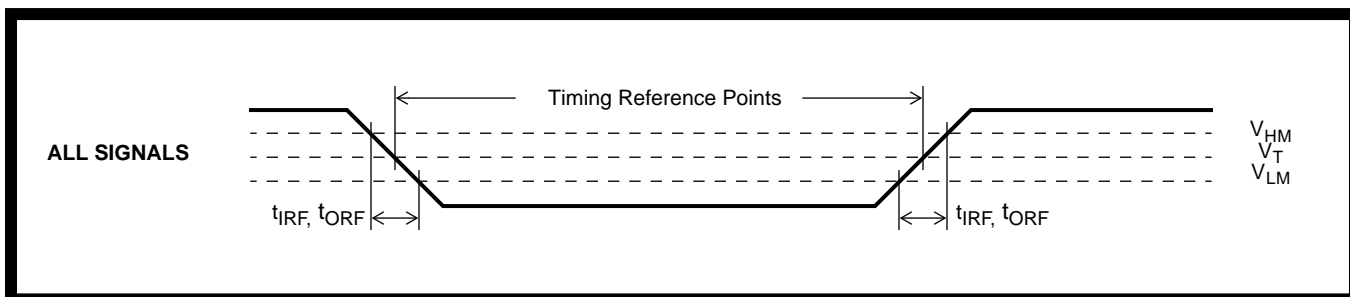

Figure 18 - Timing Parameter Measurement Voltage Levels
For systems requiring complex state machine control, the application circuit shown in Figure 18 using Manual Control may be used.
* See Figure 18.